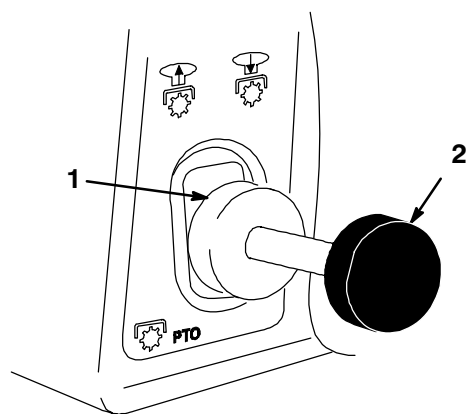

Figure 6
- Pull the power take off (PTO) to “ON” (Fig. 6).
- Push the power take off (PTO) to “OFF” (Fig. 6).